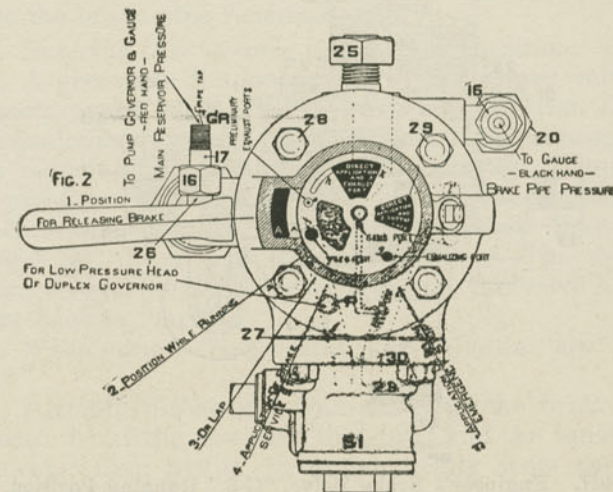

Fig. 446. Engineer's Brake Valve, "G-6," Plan View.
Q. What are the different positions of the G-6 brake-valve handle? (See Fig. 446.)
A. (1) Release; (2) running; (3) lap; (4) service application, and (5) emergency application; counting from the left as the engineman faces the valve.
A. The handle 8 of the brake valve is moved to 2 (Figs. 446 and 447), "position while running."
A. Main-reservoir air goes from the chamber above the valve 14 through port *j* and passages *f*, *f'* into chamber *F*; thence through the feed valve and passages *i*, *l*, *l'* (Fig. 446), into the brake pipe at BP. Port *g* still connects *D* with *c*; and as this last overlaps *l*, the equalizing reservoir is in connection with the brake pipe.
A. That in which (Fig. 446) the "direct application and exhaust port" *k* and the "direct application and supply port" *l* are connected by a large cavity *c* in rotary valve 14, permitting very rapid brake-pipe discharge.